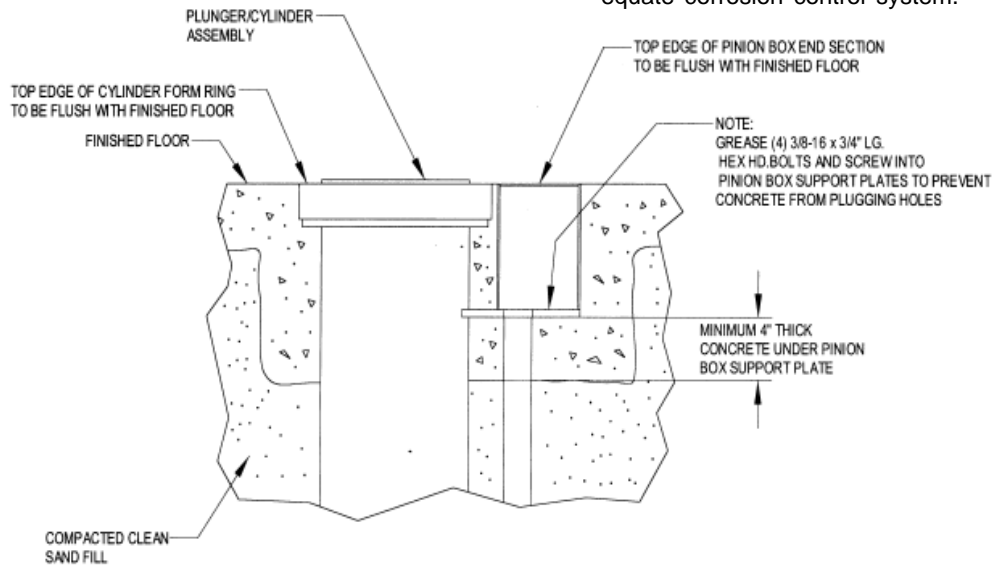

Fig. 6
10. COMPLETE BACK FILLING AND FINAL POURING OF CONCRETE FLOOR. Pour concrete floor. Protect the rack and pinion from concrete. Grease (4) 3/8-16 x 3/4 lg. hex hd. bolts and screw into pinion box support plates to prevent concrete from plugging holes. Be sure to pour concrete under pinion box support plates. See Fig. 6. Do not allow concrete to splash or pour into housings. Allow concrete to cure at least 24 hours.